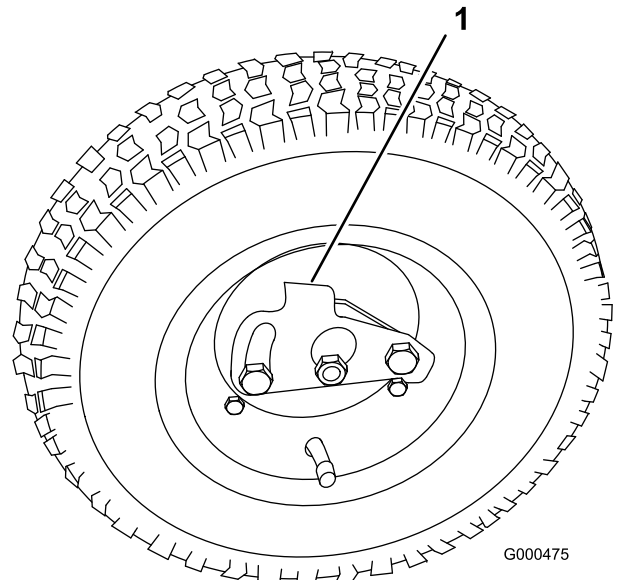

Figure 4
2. Apply Never-Seez to the exposed ends of the axles and slide the wheel onto the axle (Figure 4).
3. Pivot the wheel locking clip away from center of the wheel allowing it to slide farther onto the axle (Figure 4).